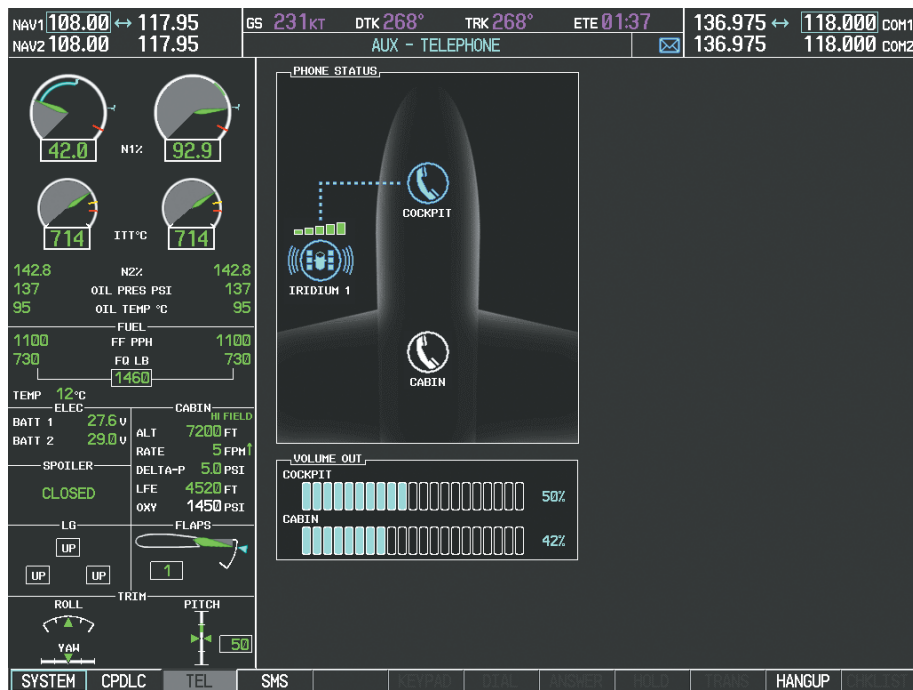

Figure 8-86 System is Making the Connection
7) Press the **ENT** Key. The system will begin calling the number, as in Figure 8-86.